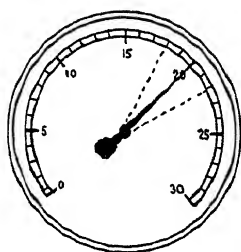

Fig. 13.—NORMAL VACUUM
2. Check Engine Vacuum (Fig. 13)